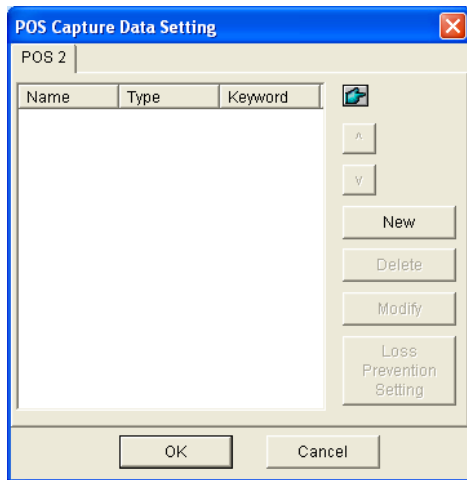

Figure 7-12 POS Capture Data Setting
2. In the POS Capture Data Setting dialog box (Figure 7-12), click the **Loss Prevention Setting** button. This dialog box appears.